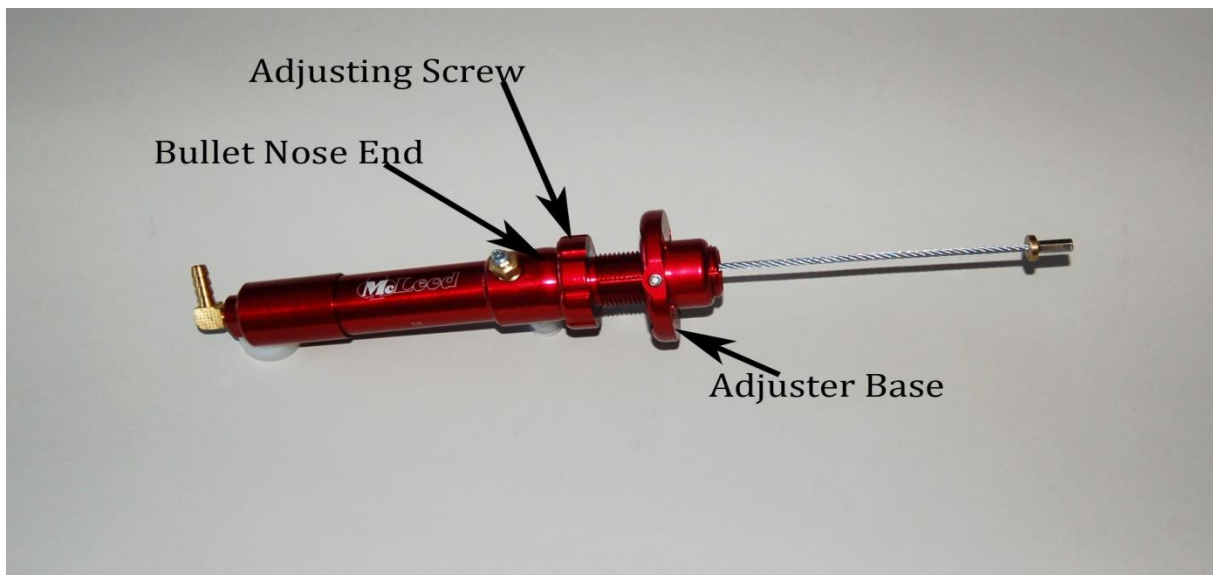

Figure 4
Step 4) Be sure the lock nut on the bullet nose end of the McLeod master cylinder is tight against the cable adapter. Install the McLeod master cylinder assembly cable through the McLeod firewall adjuster and connect it under the dash to the McLeod quadrant. Fig 4